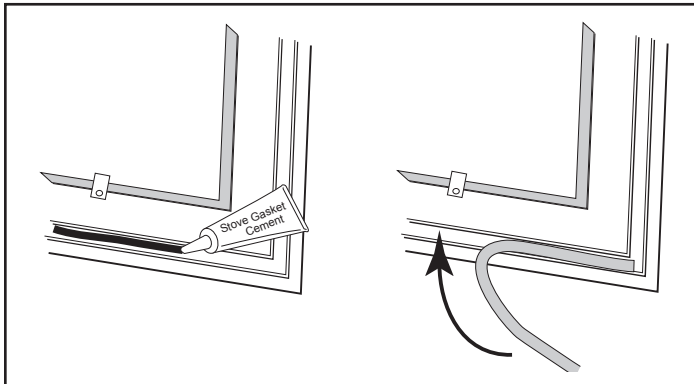

Figure 3.5 - Lay a bead of gasket silicone or cement then press gasket in place.
- Lay an unbroken 1/8" (3 mm) bead of silicone or cement in the newly-cleaned channel. (Figure 3.5)
- Starting at one end, press the gasket into the channel. (Figure 3.5) Ensure a good joint where the gasket meets before trimming any excess. Do not overlap the gasket ends or leave ends with ragged edges.